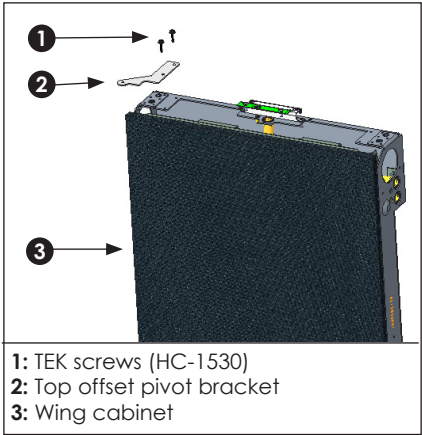
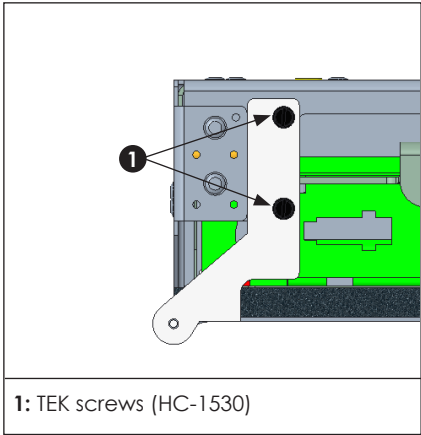

Figure 18: Top Offset Pivot Bracket
Figure 19: Top Offset Pivot Bracket (Top View Detail)
3. Attach the top offset pivot bracket to the wing section with supplied TEK screws (#HC-1530). Refer to **Figure 18** and **Figure 19**.